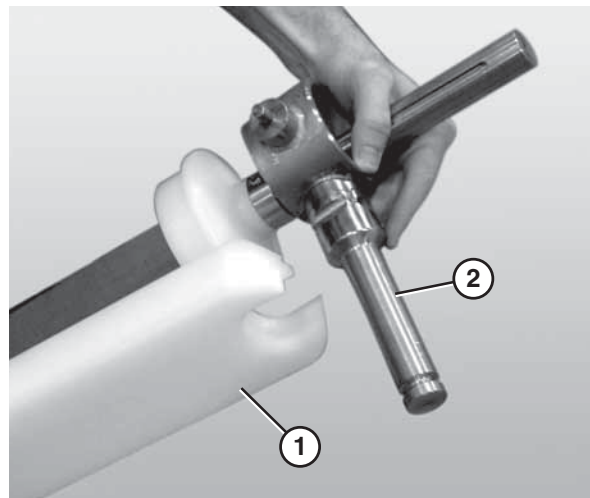

Figure 85
6. Attach the guard bar (**Figure 85, item 1**) to the bearing / motor mount bracket shafts (**Figure 85, item 2**).